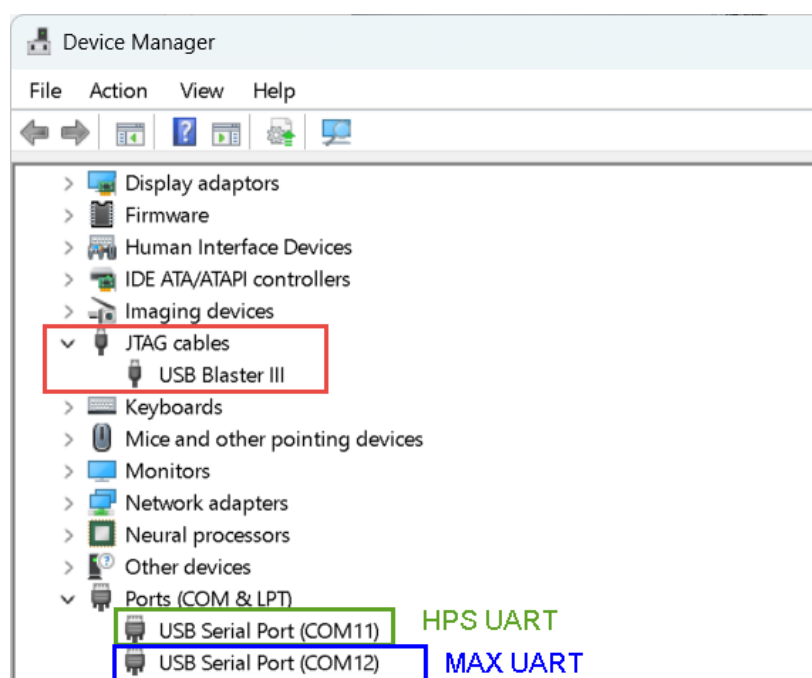

Figure 4-2 USB Blaster III and UART Ports in the Device Manager
1. **For JTAG:** Expand the JTAG cables (or Universal Serial Bus controllers) category. You should see **USB Blaster III** listed (See **Figure 4-2**).
2. **For UART:** Expand the Ports (COM & LPT) category. You should see two USB Serial Port (COMx) devices. The port with the smaller COM number is connected to the HPS UART, while the port with the larger COM number is connected to the System MAX10 UART. (For example, if your system assigns **COM11** and **COM12**, **COM11** is for the HPS and **COM12** is for the System MAX10, see **Figure 4-2**).